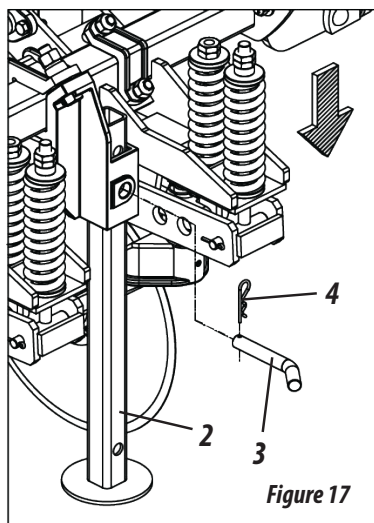

Figure 17
NEW SPACES (FIGURES 17/18/19)
- 1- Lift the seeder by actuating the hydraulic cylinder (1).
- 3- Then, lower the support brackets (2) and secure it with the pin (3) and lock (4), **as shown in Figure 17.**